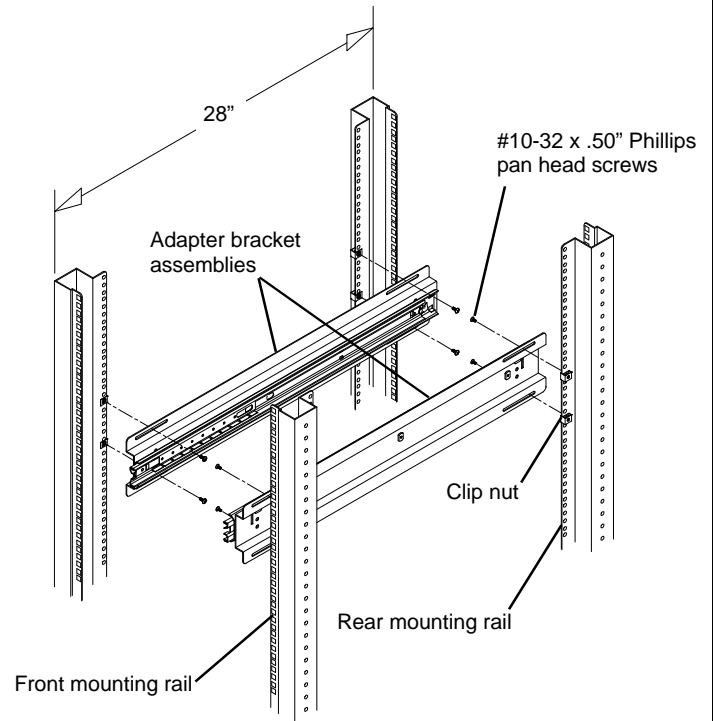

Figure 3
1. With the front mounting rails positioned at their original location, adjust the rear mounting rails 28" from the front mounting rails. See **Figure 3**.
2. Attach the Mounting Bracket assemblies to the Clip Nuts with the #10-32 x .50" Phillips pan head screws provided and tighten securely. See **Figure 3**.